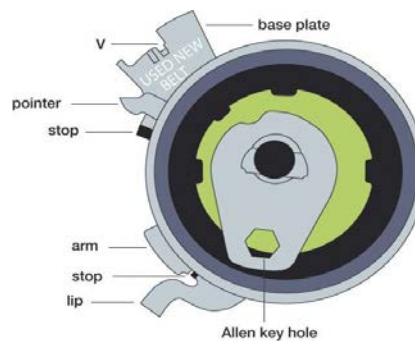

Fig. 1
6. Install new tensioner, hand tighten bolt. Tensioner lip has to be in oil pump housing slot. (Tensioner pointer has to sit behind water pump pulley). The allen key hole has to be set in +/- 7 O'clock position (Fig. 1).